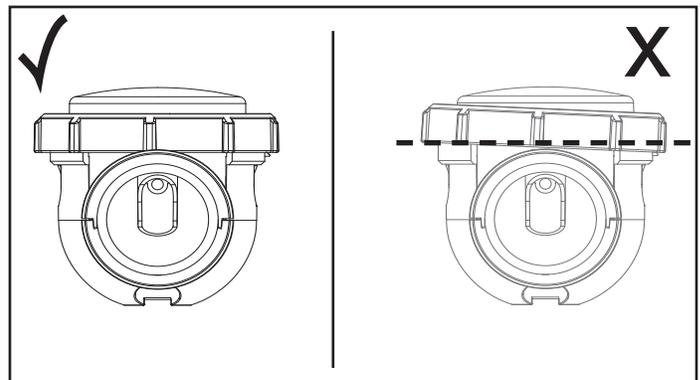

Figure 28. Locking Ring Level
**NOTE:** Ensure the locking ring is level when engaging the threading housing (see Figure 28).